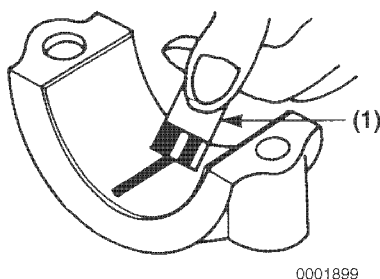

Figure 6-44
- (f) Compare the width of the flattened PLASTIGAGE to the graduation marks on the package (**Figure 6-44, (1)**). The mark that most closely matches the width of the flattened PLASTIGAGE will indicate the bearing oil clearance. See *Crankshaft, Balancer Shaft, Piston and Connecting Rod* on page 6-8 for the wear limit.